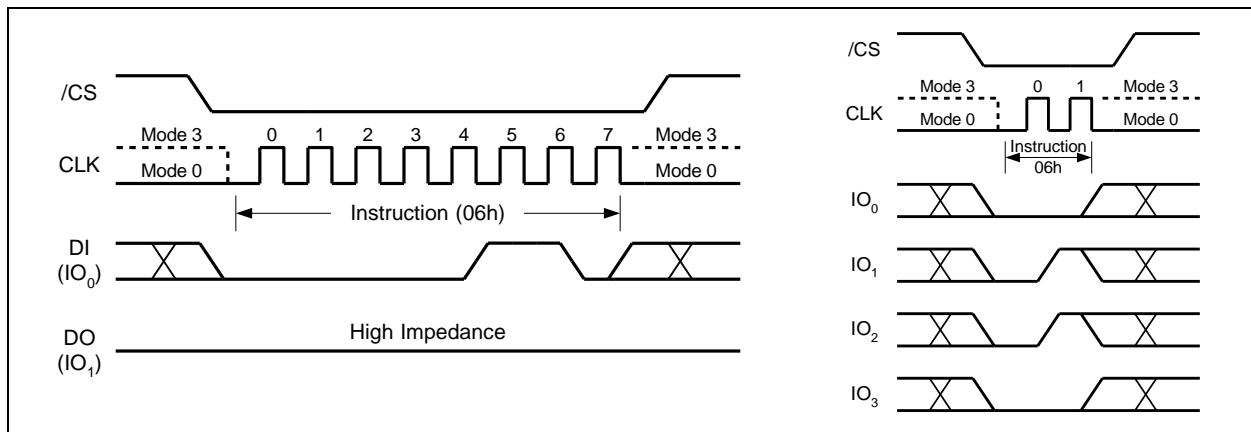

Figure 5. Write Enable Instruction for SPI Mode (left) or QPI Mode (right)
The Write Enable instruction (Figure 5) sets the Write Enable Latch (WEL) bit in the Status Register to a 1. The WEL bit must be set prior to every Page Program, Quad Page Program, Sector Erase, Block Erase, Chip Erase, Write Status Register and Erase/Program Security Registers instruction. The Write Enable instruction is entered by driving /CS low, shifting the instruction code “06h” into the Data Input (DI) pin on the rising edge of CLK, and then driving /CS high.